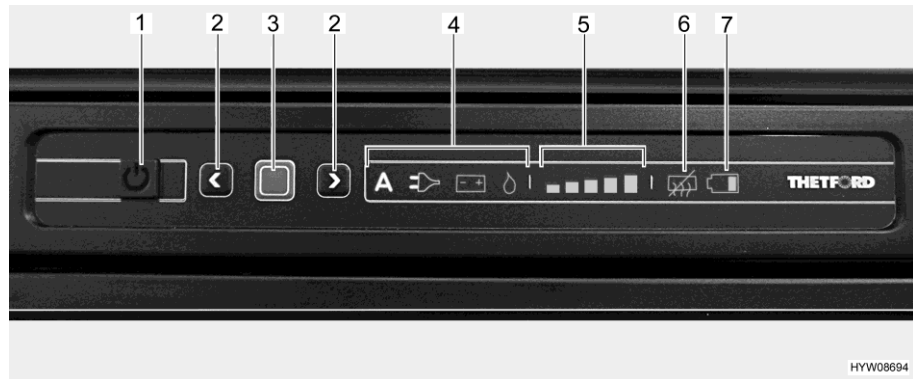

Fig. 197 LED operating panel (Thetford refrigerator)
- Press and hold the On/Off button (Fig. 197,1) for 1 second. The button lights up green. To save energy, after approximately 10 seconds the display is dimmed.
- Press confirmation button (Fig. 197,3). The operating mode previously selected is displayed.
- Press and hold the confirmation button (Fig. 197,3) for about 2 seconds. The operating mode symbols flash.
- Manual power selection: use the arrow keys (Fig. 197,2) to select the desired energy source.
- Automatic power selection (only version with automatic power selection): use the arrow keys (Fig. 197,2) to select the operating mode "A".
- Confirm your selection with the confirmation button (Fig. 197,3).
- Press confirmation button (Fig. 197,3) again. The cooling level indicator (Fig. 197,5) flashes.
- To change the setting, press the arrow keys (Fig. 197,2) until the desired setting is displayed.
- Press and hold the On/Off button (Fig. 197,1) for about 2 seconds. All lights go out. Refrigerator is switched off.
After switching it on, the refrigerator automatically selects the previously selected thermostat position. This position can be adjusted manually by using the arrow keys (Fig. 197,2). It takes a few hours till the refrigerator reaches its normal operating temperature. When changing over to another operating mode, the thermostat setting is kept.